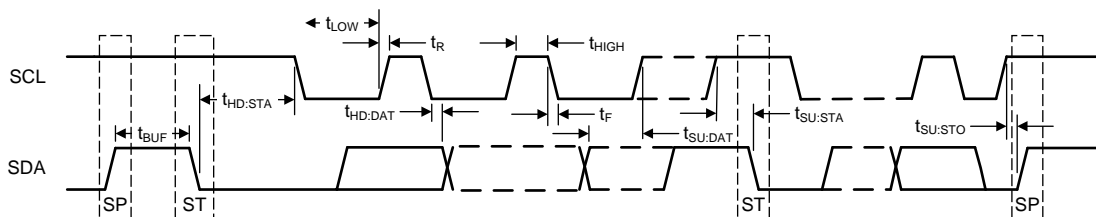

Figure 1. SMBus Timing Parameters
- (1) These parameters support SMBus 2.0 specifications.
(2) These parameters are not production tested.
(3) See Figure 1 for timing diagrams.